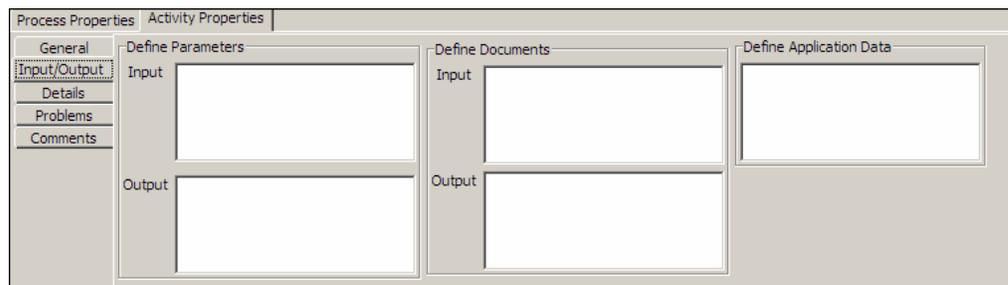

Figure 7.10: Input/Output Properties
6. Click **Input/Output** tab to display all input and output properties for the selected element (see Figure 7.10).